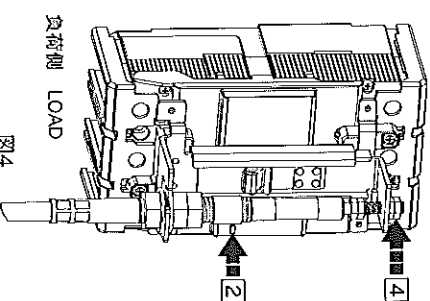
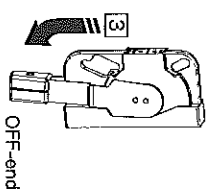

図4
図5
5. Tighten double nuts of 図4 to able to maintain the position of the slide base. (Tightening torque:3.5~4.0N・m)
7. If the MCCB or ELCB can not be turned ON, tighten nuts of 図4 toward line side until the MCCB ELCB can be turned ON.
2. ブレーカをTRIPさせてください。(図4)
3. フランチハンドルをOFF-endまで操作してください。(図5)
3. Turn the MCCB or ELCB TRIP. (See fig.4)
4. Operate the operation handle to position of OFF-end. (See fig.5)
5. Tighten a nut of 図4 toward load side until the MCCB or ELCB are turned RESET. Beside, Tighten a nut for 2 turns. Afterward tighten double nuts of 図5. (Tightening torque : 3.5~4.0N・m)